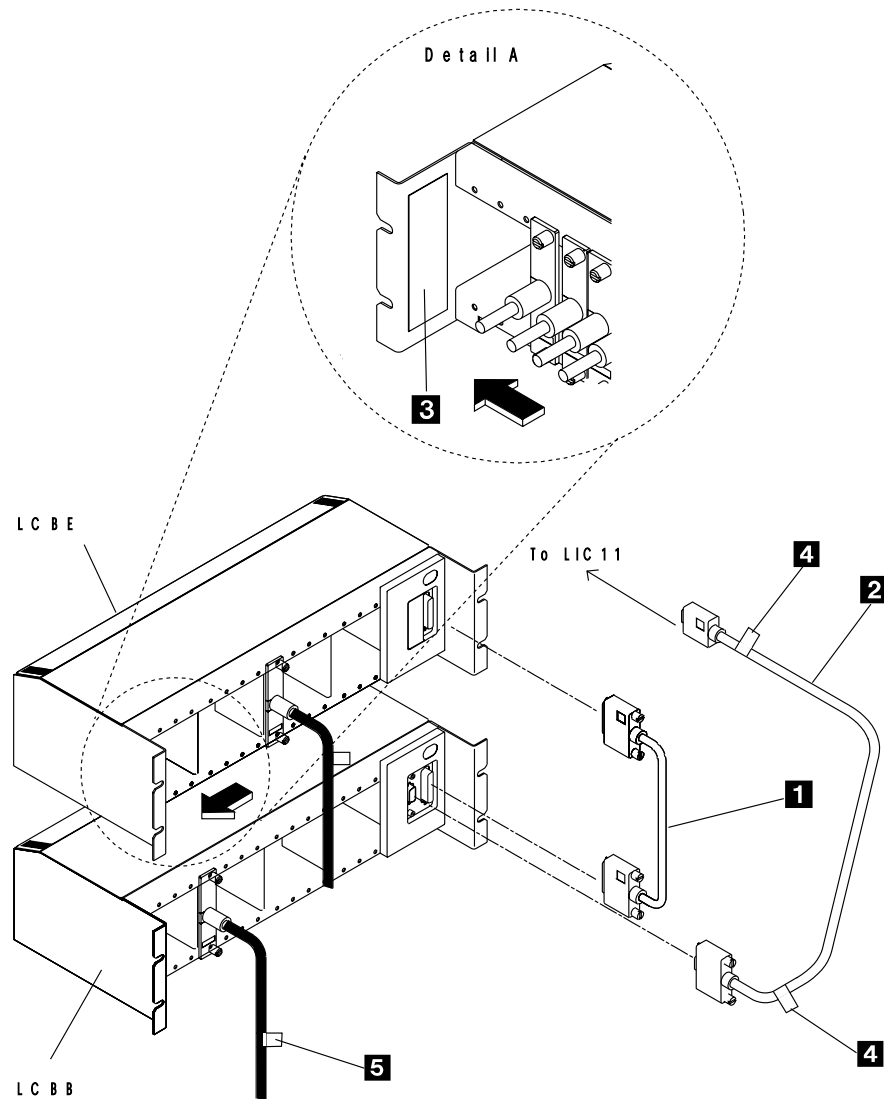

Figure C-10. LCBB and LCBE Connections (Installed with ARC Assembly A)
**Step 3** Put the label on the inner left side of the LCB (see **3** in Detail A of Figure C-10 on page C-15).
**Step 11** Put two identical labels at both ends of the cable (see the two **4**s in Figure C-10 on page C-15).
**Step 12** Connect the LIC11 cable to the LCB base and tighten the cable plug retaining screws (see “Unplugging or Plugging In LIC Cables” on page C-7 for details, and also **2** in Figure C-10 on page C-15).
- Step 5** Put ARC labels at both end of the cable (see **5** in Figure C-10 on page C-15). Remove any old labels first.